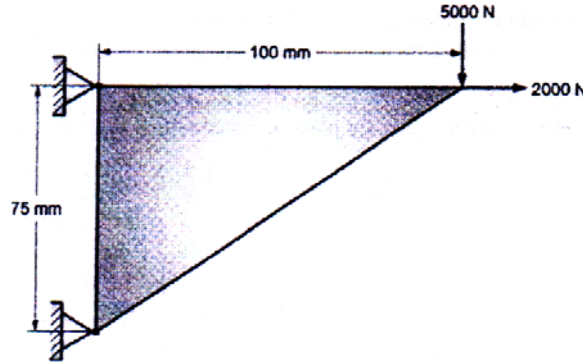

Fig.5
- Q5)** A triangular plate of size $100 \times 75 \times 12.5$ mm is subjected to the loads as shown in fig.5. The modulus of elasticity and Poisson's ratio for the plate material are 2×10^5 N/mm² and 0.3 respectively. Model the plate with CST element and determine : [17]